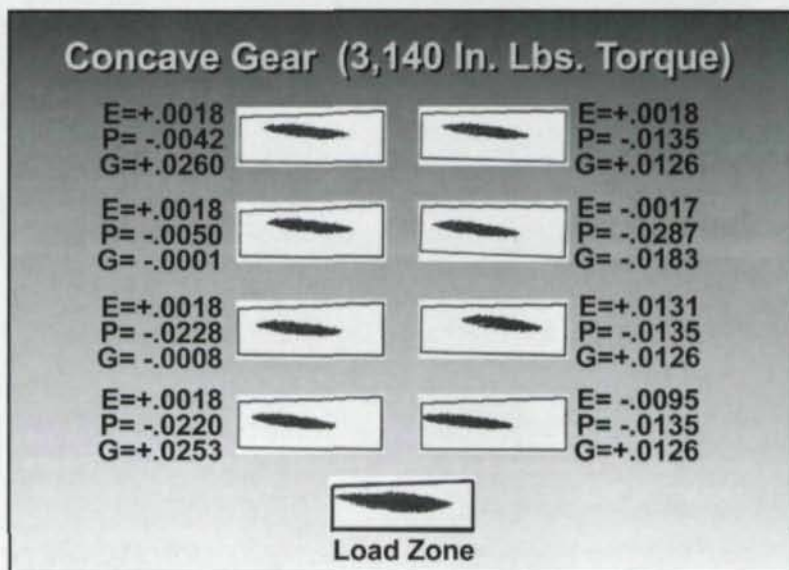

Figure 7—Displacements in aircraft jet engine project, corresponding contact pattern designs and combined load zone.
in Figure 7. Some of those displacements are considerable, such as the pinion moving above the gear (E) by 0.013", the pinion going into mesh (P) by almost 0.029" and the gear going out of mesh (G) by 0.026".
The contact pattern that was designed then met the requirements of the different displacements shown in Figure 7. Next to each requirement is the contact pattern from the loaded TCA study. If these contact patterns were overlaid or their contact areas combined, the result would—in essence—be a depiction of what the load zone will be for this gear set while it is in operation and encounters all of these different displacements at 3,140 in.-lbs. of torque.